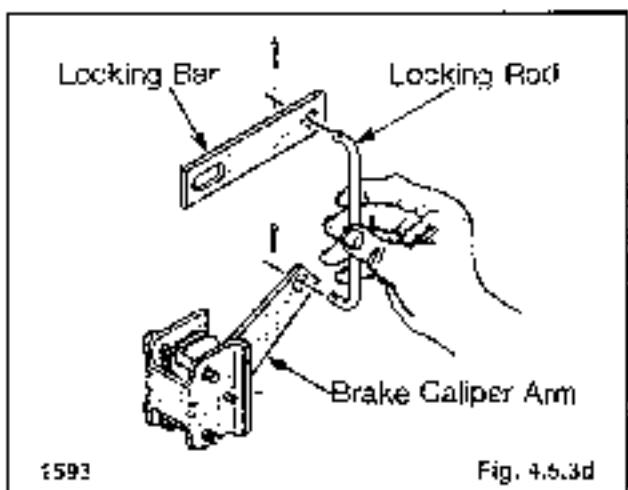

Fig. 4.5.3d
8. Remove the locking rod from the locking bar and brake caliper arm (fig. 4.5.3d).